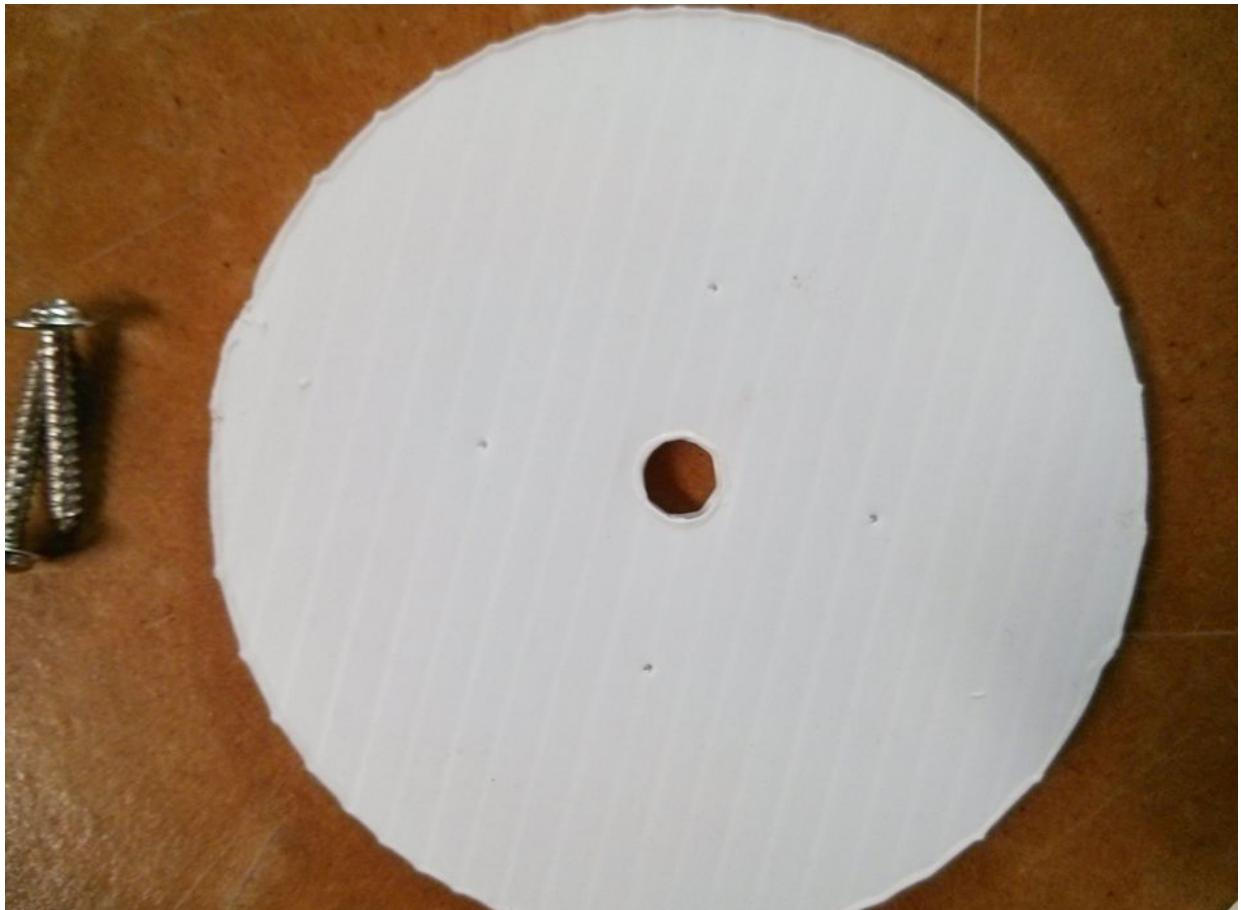

Figure 1-3. Mark screw points using the servo horn and a piece of wire
2. Next, mount the wheels to the servo. Take the cross-shaped servo horn (you should have a packet of different shaped plastic fittings with your servo) and align the center with the center of the wheel. You can use a piece of wire or a needle to poke small holes in your material to mark the points to screw (Figure 1-3).